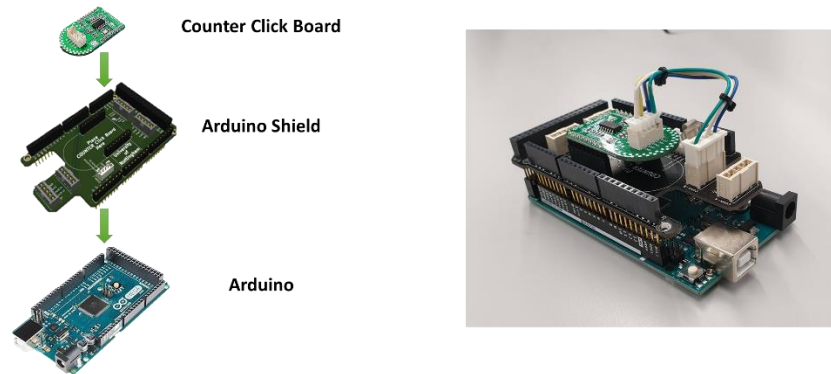

Figure 3 Three boards (Arduino + Arduino Shield + Counter Click Board) together
- c. **CONN-B** (on Arduino Shield) with “**Counter Click Board**” connector (see Figure 3 a few pages above)